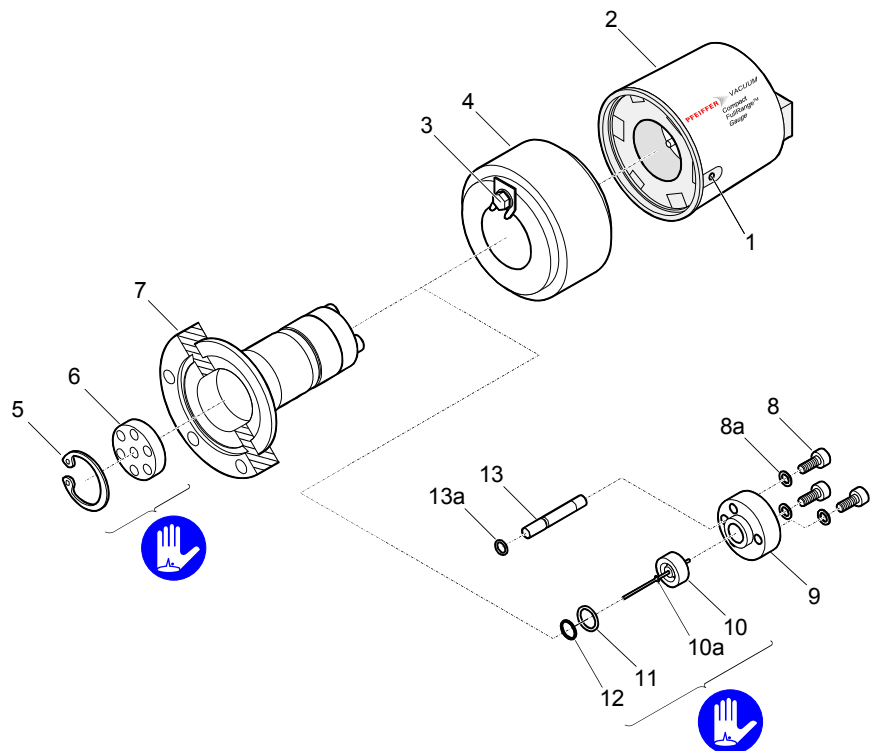

Figure 2
- ➋ Unfasten the hexagon socket set screw (1) on the side of the electronics unit (2) (→ Figure 2).
- 1 Remove the old ignition aid (10a), for example with tweezers (→ Figure 2).
- ① Insert the FPM seal (11) with the support ring (12) centered into the measuring chamber (7). The sealing surface, seal, and ceramic part must be clean (→ Figure 2).
- ② Carefully insert the anode (10) incl. ignition aid (10a) into the measuring chamber.
- ③ Insert the Pirani element (13) with the FPM seal (13a) slid over it into the corresponding bore hole.
- ④ Carefully place the pressure piece (9) on the measuring chamber and tighten them with the three hexagon socket screws (8) incl. lock washers (8a) uniformly until the stop position is reached.
- ⑤ Position the ignition aid (10a) by pushing the mounting tool over the anode pin until the mechanical stop is reached.
- ⑥ Blow the particles in the measuring chamber with dry nitrogen (be careful to hold the measuring chamber with the flange pointing downwards).
- ⑦ Slide the polarity insert (6) into the measuring chamber until the mechanical stop is reached.
- ⑧ Place the circlip (5) snugly fitting on the polarity insert.